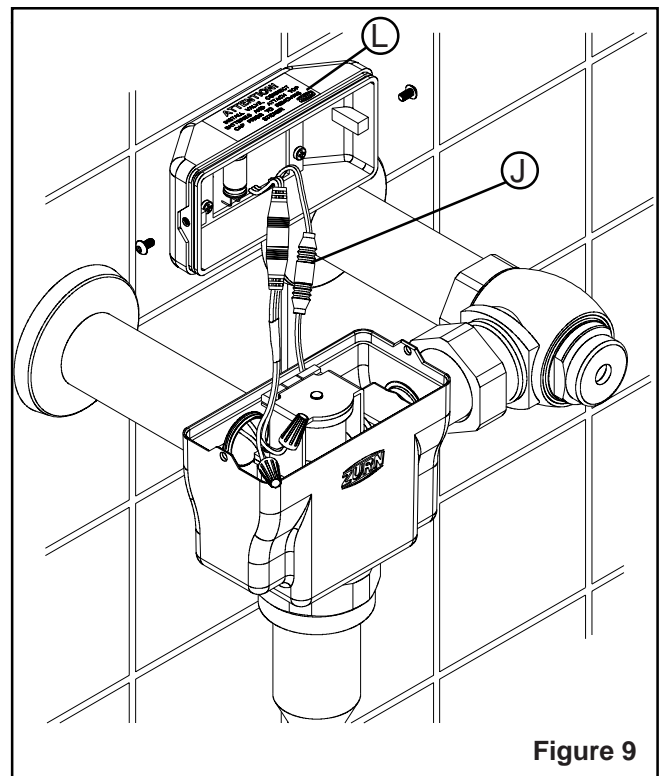

Figure 9
Electronics Reset Procedure: Remove valve cover. Disconnect solenoid wires ((J) Figure 9). Disconnect one wire nut connection to disrupt power to the valve. Place magic magnet on top cover as if changing activation distance (See Appendix A). Reconnect solenoid wire connector. Place valve cover back on valve housing, carefully tuck wires into housing. Secure cover with two screws provided. Reconnect power and check for sensor function.